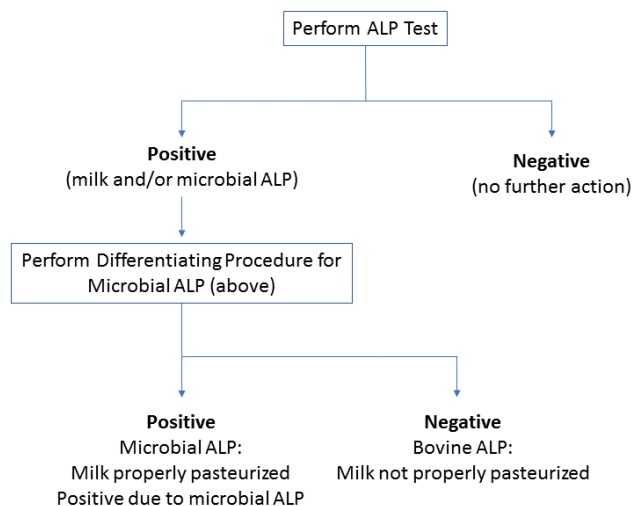

Fig. A.1: Microbial ALP Test Flow Diagram
- d. Re-test for ALP activity. The flow diagram in Fig. A.1 will assist in interpretation of the results.